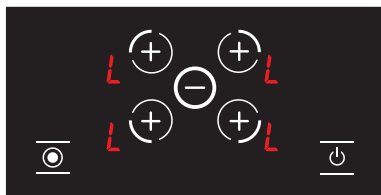

Figure 22
1. The **L** icon is displayed on all displays when the stove is on and the child lock is active. (see Fig. 22) The **L** and **H** icons are displayed alternatively if any hob is hot. You may turn the stove on or off with the  key only.